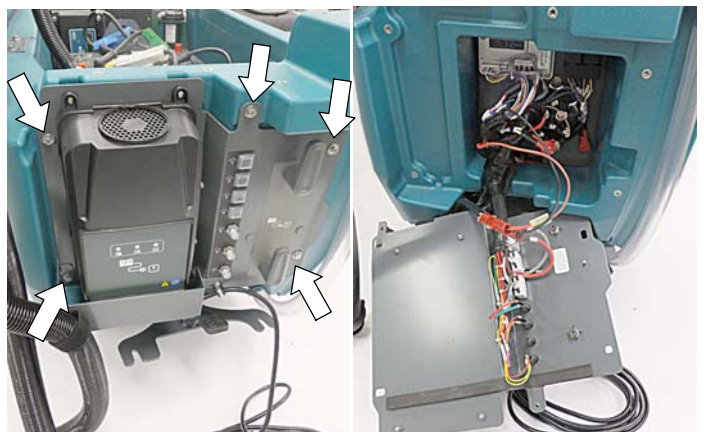

Fig. 17
- Remove five mounting screws from circuit breaker panel and carefully lower panel as shown (Figure 17).